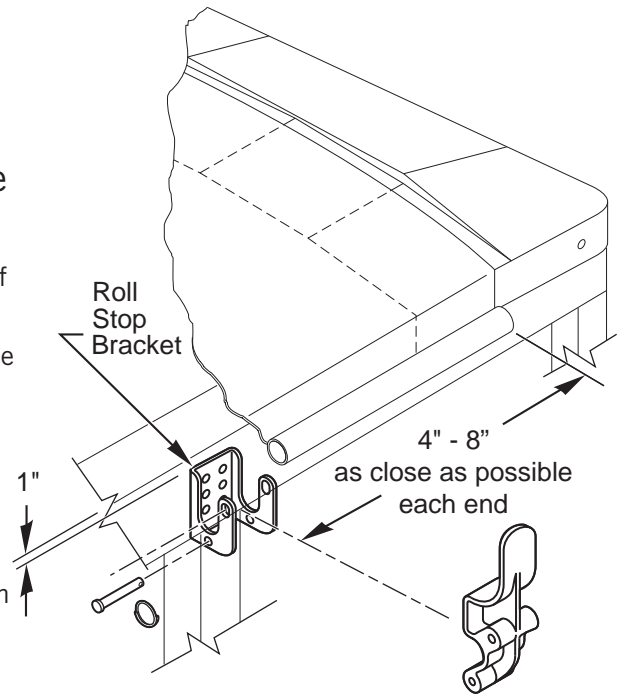

Figure 46
- 2) **Figure 46.** Locate first roll stop bracket 4"-8" from end of anchor pipe and 1" down from top rail.
- 3a) **Figure 46.** Drill a pilot hole and attach with 3/8 x 1 type F HWH bolts.